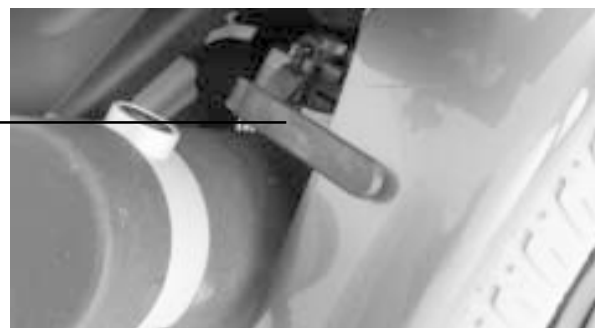

Figure 7. Drive Mode (Drive Engaged)
2. Push the manual freewheel lever outward for drive mode (drive engaged). See figure 7.